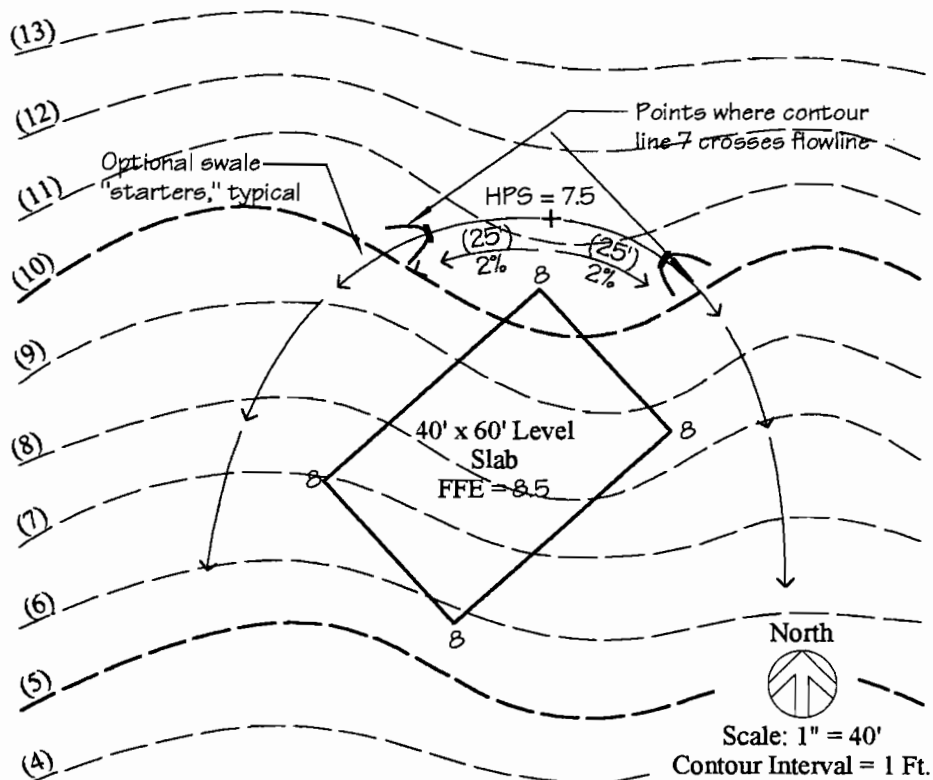

Figure 4-30. Finding Length to Points Where Contour 7 Crosses Flow Line
Step 3. Find the whole number contour line crossing points for the first contour below the high point swale. Since the high point swale elevation is 7.5, contour 7 will be the first whole number contour below that point. Note that it will cross the flowline two times — once on either side of high point swale as shown in Figure 4-30. Calculate the grade between the high point swale and the first contour to be certain that the grade is at least 2%. To determine how far contour 7 needs to be located from the high point swale, the *length formula* will be used.